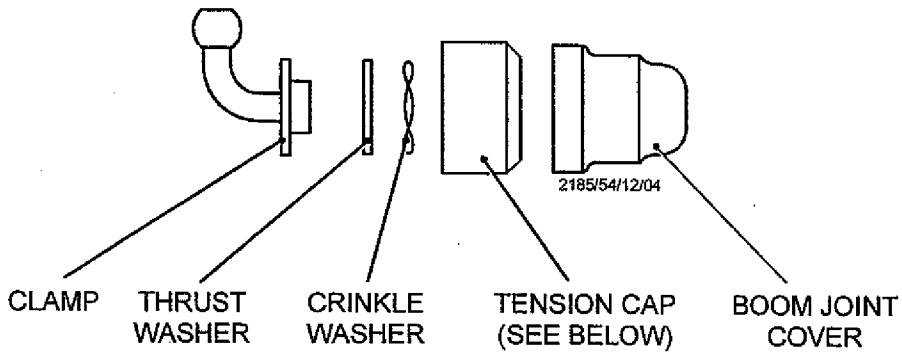
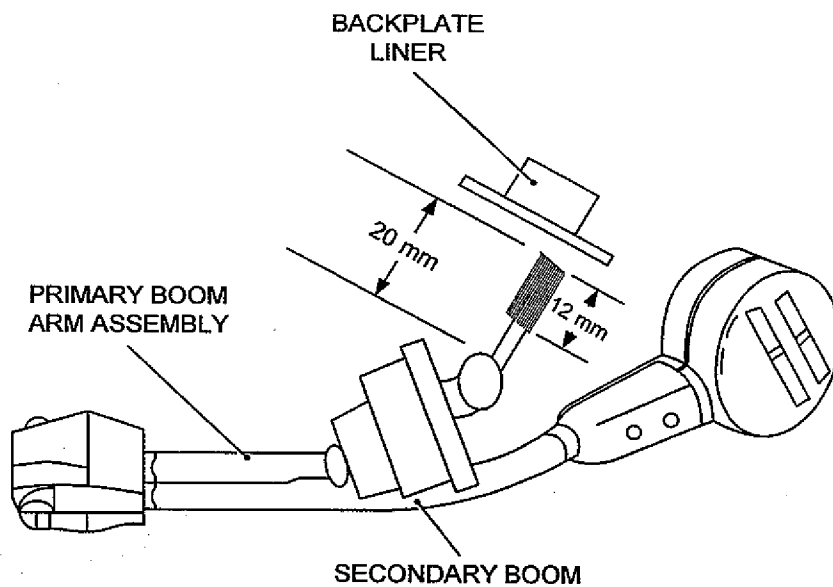

Fig 4 Boom microphone assembly 5965-99-000-5983: friction tension assembly
Fig 5 Boom microphone assembly 5965-99-000-5983: fitting of backplate liner
18 At the connector (7) end of the primary boom arm assembly (15), release the friction tension assembly (14) (see also Fig 4) to allow access to the connector connections. Using a suitable 'C' spanner, disconnect the connector (7) from the pins A (yellow) and C (screen). Pull the connector (7) through the backplate liner (8), the friction tension assembly (14) (see also Fig 4), primary boom arm assembly (15) and the secondary boom arm assembly (3).
19 Refit the connector (7) by feeding the connector cable through the secondary boom arm assembly (3), the primary boom arm assembly (15), the friction tension assembly (14) (see also Fig 4) and the backplate liner (8). Ensure that the friction tension assembly components are refitted in the positions shown in Fig 4 with the tension cap clamped only finger tight before fitting the $\frac{1}{4}$ " and $\frac{1}{8}$ " screws (16 and 17) in the positions indicated in Fig 3. Ensure also that the backplate liner (8) is refitted orientated as shown in Fig 5 and that the boom joint cover is replaced over the tension cap (Fig 4).
21 At the connector (7) end of the primary boom arm assembly (15), reconnect the connector (7) at terminal A (yellow) and C (screen). Do not overtighten the nut on the connector (7). Ensure that the screen is sleeved. Use a small amount of Loctite 221 to secure the connector (7) in place. Re-adjust the friction assembly (14) (see also Fig 4) tightness as required.
23 Bend the boom assembly as shown in Fig 5. Using the existing connector cable, gently pull the replacement cable through the primary (15) and secondary (3) boom arm assemblies. Reconnect the microphone (1) as described in Para 16.